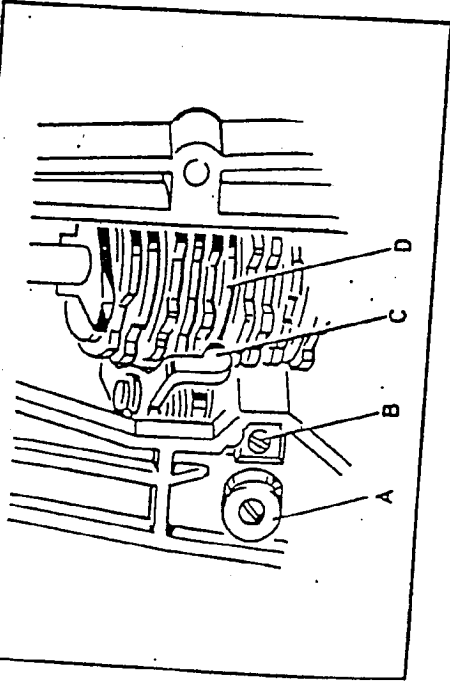

Fig. 3
- loosen the two grub screws of adjusting ring A (fig.3) and extract cam displacing gear B;
- put back in its place adjusting ring A (fig.3), adjust the relevant axial clearance and tighten the grub screws;
- Turn selector knob until bringing disc D (fig.3) - the sixth one from above - against contact finger C and, simultaneously, by turning the cam unit by hand, make sure that the sides of the contact finger do not hit other discs.
- loosen grub screw B (fig.3) and move contact finger C with relevant pin either upward or downward until the desired condition is obtained;